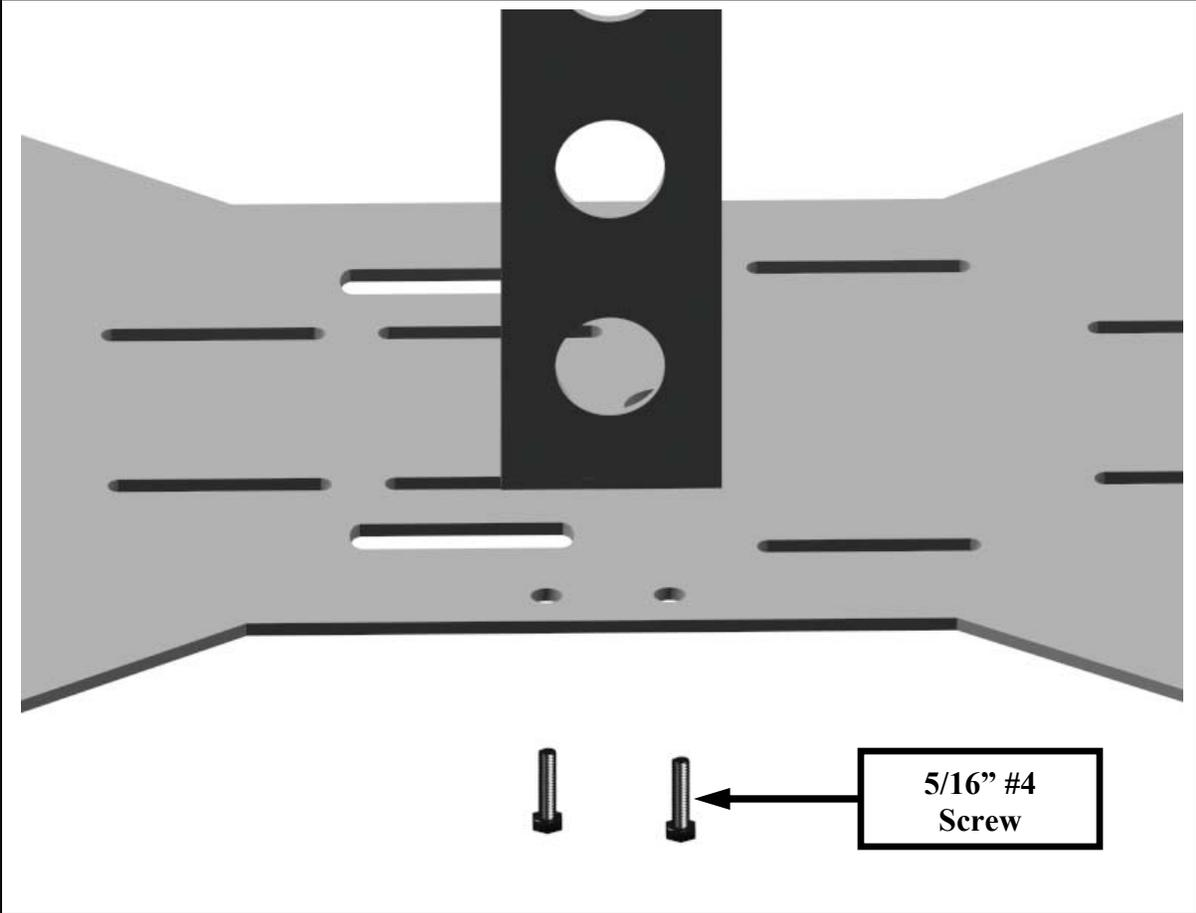

Figure 41: Side Support Assembly
2. Once **all** of the pem studs are aligned and inserted into the leg pivot holes, secure the lower deck to the upper deck with (10) #4 - 5/16" screws and (4) #4 washers (where applicable) as shown in Figures 41, 42 and 43.